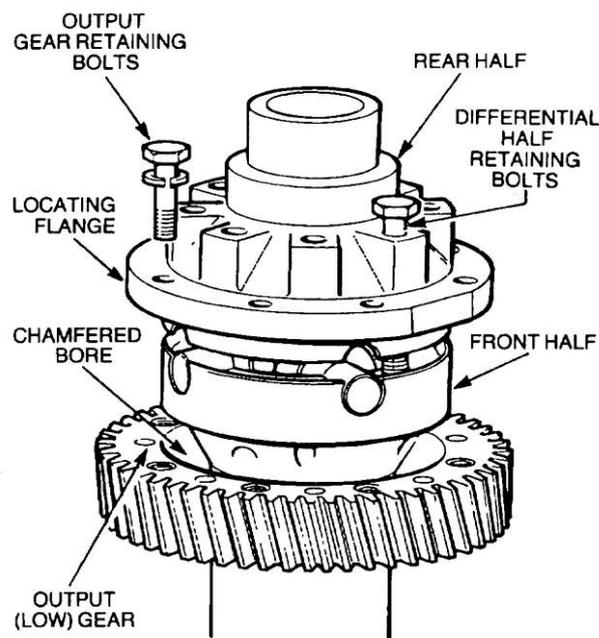

Figure 208 Removal of the Output (Low) Gear
- r. Remove the eight bolts and lock-washers retaining the output (low) gear to the differential (Figure 208). Remove the gear and discard the lock-washers.
- s. Support the differential assembly in the vertical position with the rear half uppermost (Figure 208) and remove the eight bolts and lock-washers retaining the two differential halves together. Lift off the rear half and discard the lock-washers.
- d. Install the output (low) gear over the front half of the differential, ensuring that the chamfered bore and countersunk ends of the tapped hole are towards the locating flange (Figure 208). Align the bolt holes and apply Loctite 241 to the threads of the bolts. Install the bolts and lock-washers. Tighten the bolts in a diametrically opposed sequence and torque them to 60 to 64 N.m (44 to 47 lbf.ft).